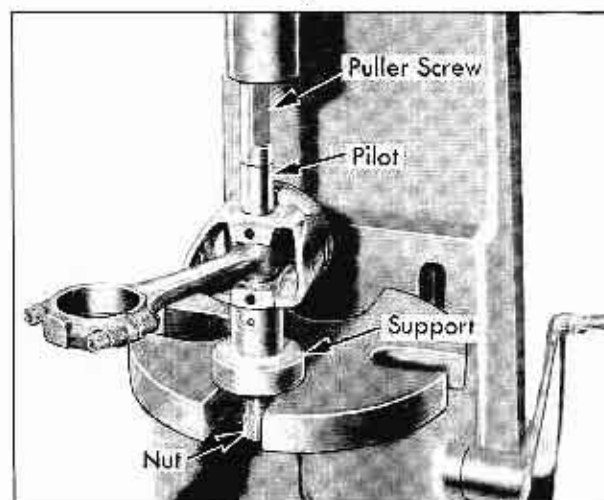

Fig. 10-19 Removing Piston Pin
4. Install nut loosely on puller screw and place assembly in an arbor press, as shown in Fig. 10-19.